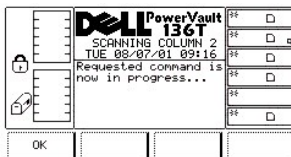
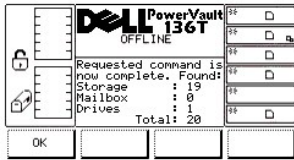

Figure 43. Command > Move > Scan Barcode > Progress Dialog
Figure 44. Command > Move > Scan Barcode > Completion Dialog
- 1 If the button beneath the **OK** softkey is pressed, the fields are accepted and the follow on dialog is displayed. Refer to Figure 43 and Figure 44.